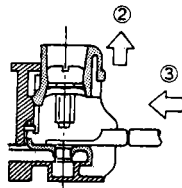

Fig. 4
3. Insert the upper crimp terminal, and pass the crimp terminal through a screw. (Figs. 4, 5)